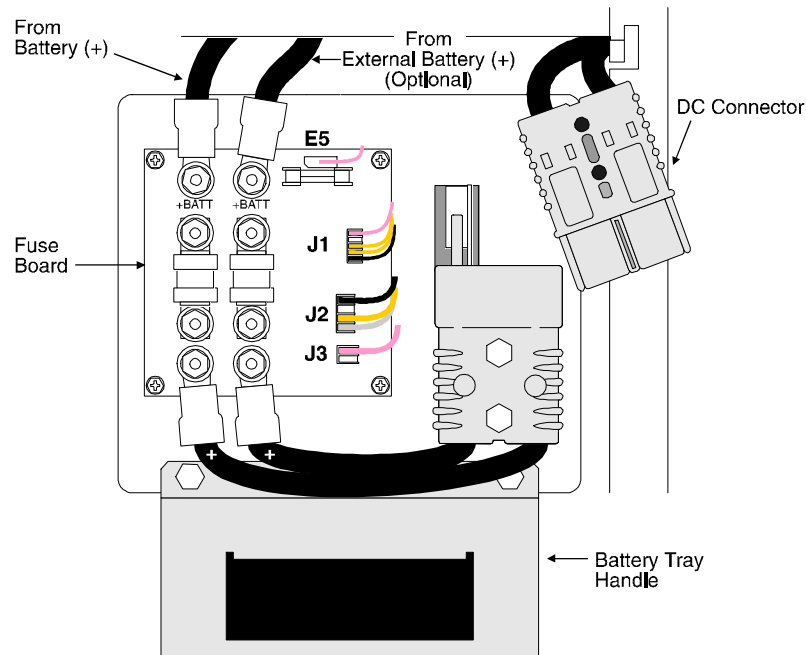

Figure 3: Battery Tray, Front View
- 200-4. Use the two bolts to attach the battery tray handle to the battery tray at the front of the unit (see Figure 3).
- 200-5. Remove the bolt from the top DC connector. See Figure 3 for DC connector location.
- 200-6. Disconnect the top DC connector as shown in Figure 3.
- b. Disconnect the external battery cable (+) from the “+BATT” post at top of the fuse board (see Figure 3). **Insulate the cable lead with electrical tape or heat shrink tubing.**
- 200-8. **In the order listed**, disconnect the following from the fuse board. Remove any tie wraps. See Figure 3 for connection locations.
- 300-5. If the unit has external batteries, connect the external battery cable (+) to the “+BATT” post at the top of the fuse board (see Figure 3). Reassemble in this order: cable, flat washer, split lock washer, nut **or** cable, flat washer, nut with attached star washer.
- 300-7. **In the order listed**, reconnect the following. See Figure 3, on page 9, for connection locations.